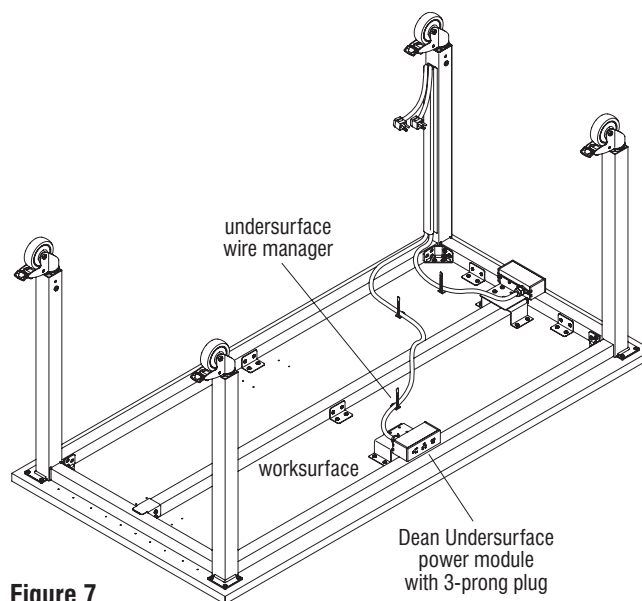

Figure 7
4. Use the undersurface wire managers to strap the Dean Undersurface power module cords to the underside of the worksurface (Figure 7, Details I & J).
3. Use the undersurface wire managers to strap the Dean Undersurface power module cords to the underside of the worksurface (Figure 7, Details I & J).